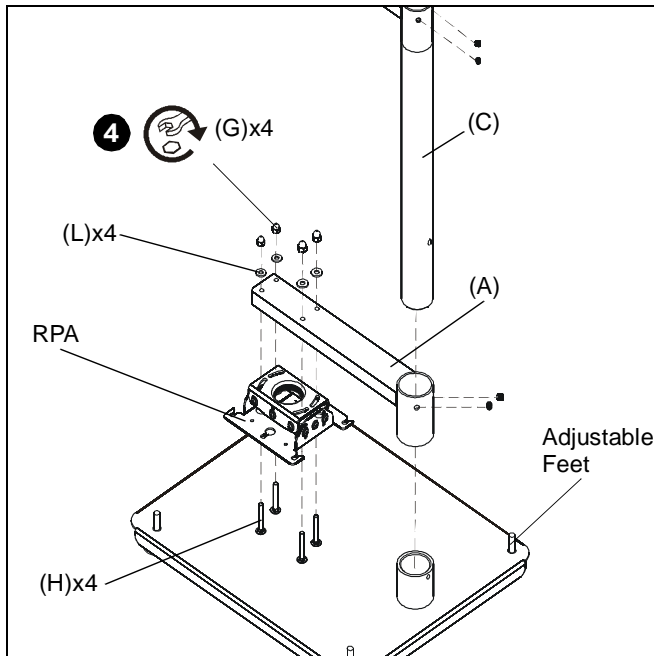

Figure 1
3. Secure NPT pipe to base plate using one 5/16-18 x 3/8" set screw (I).
4. Attach RPA to projector arm (A) using four 1/4-20 X 1-1/2" carriage bolts (H), four 1/4-20 acorn nuts (G) and 1/4" flat washers (L). (See Figure 1)